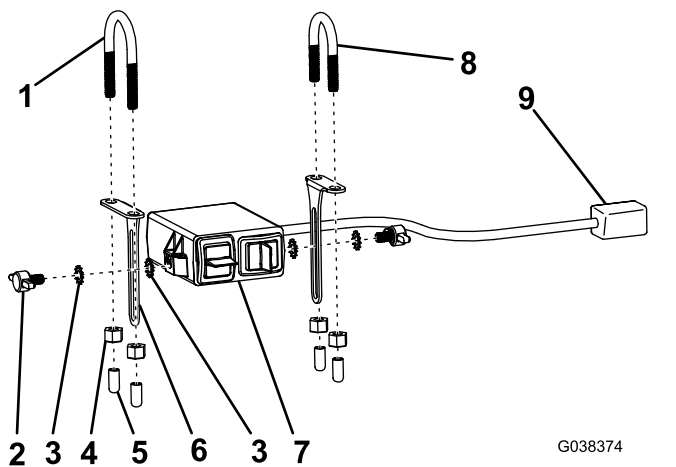

Figure 8
2. Secure 1 of the mounting brackets along the left side of the vehicle control cluster using the long U-bolt and 2 self-locking nuts (1/4 inch) as shown in Figure 8.
3. Secure the other mounting bracket along the right side of the vehicle control cluster using the short U-bolt and 2 self-locking nuts (1/4 inch) as shown in Figure 8.
4. Secure the switch box to the mounting brackets using 4 star washers and 2 thumb screws and adjust it to the desired position (Figure 8).
5. Slide the 4 rubber end caps over the ends of the U-bolts (Figure 8).